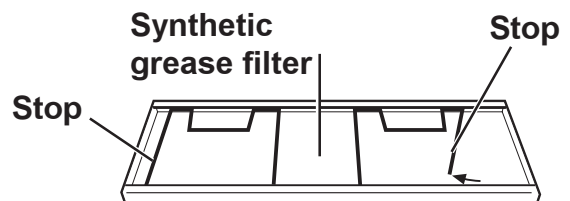

Fig. 6 - EFG 535
- Open the grid and remove the stops to take out the filter. Fig. 6.